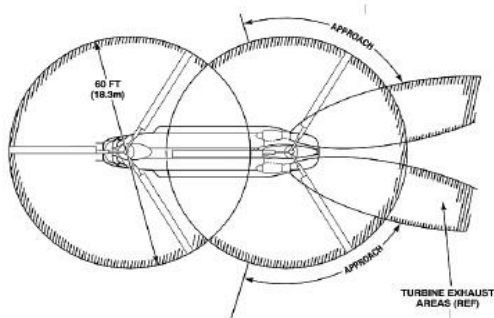

Fig 5 Aircraft operating approach direction
- Only approach or leave the aircraft along the direction shown in Fig 5.